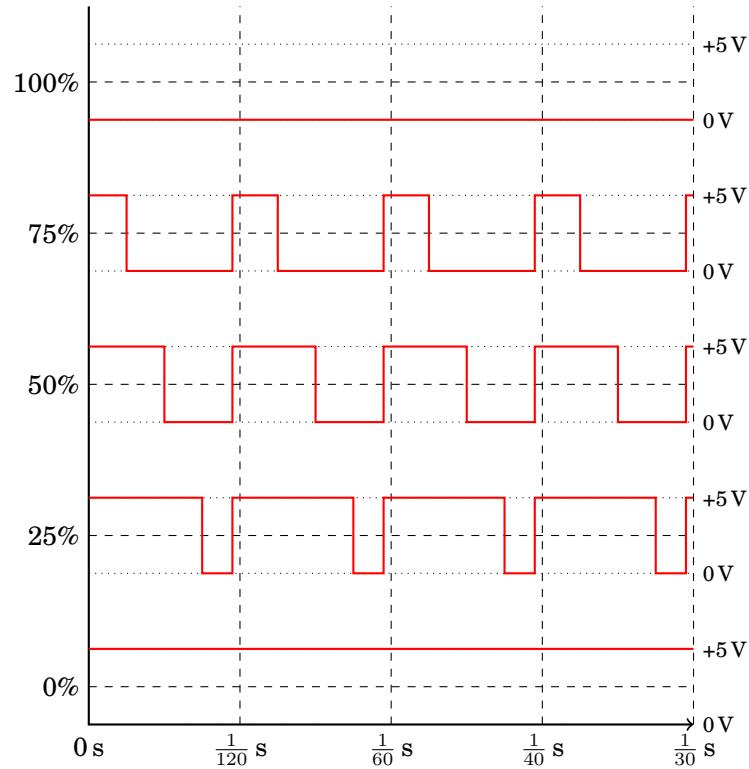

Figure 1: Duty Cycles of Channel Logic Drive Outputs
For experimental use, TTL-level outputs for the first four channels are available on J18. These are active-low outputs, where a “low” (0) state indicates that the output should be on, and a “high” (1) state means that the output should be off. Note that if an output is at a dimmer level other than fully on or fully off, the signal will pulse with a duty cycle corresponding to the dimmer level as illustrated in Figure 1.